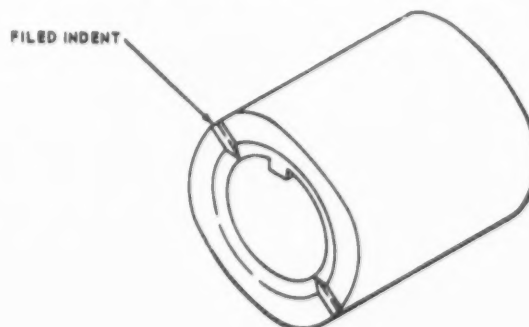

Figure 5-38. Cam with filed indent
- (d) Turn rotating magnet in proper rotation until pointer indexes with E gap mark. At this point, scribe a line on end of cam so it indexes with mark at top of breaker compartment plate. Remove cam from shaft of rotating magnet and, using a small three-corner file, file an indented line across end of cam at the scribe mark. (See figure 5-38.)